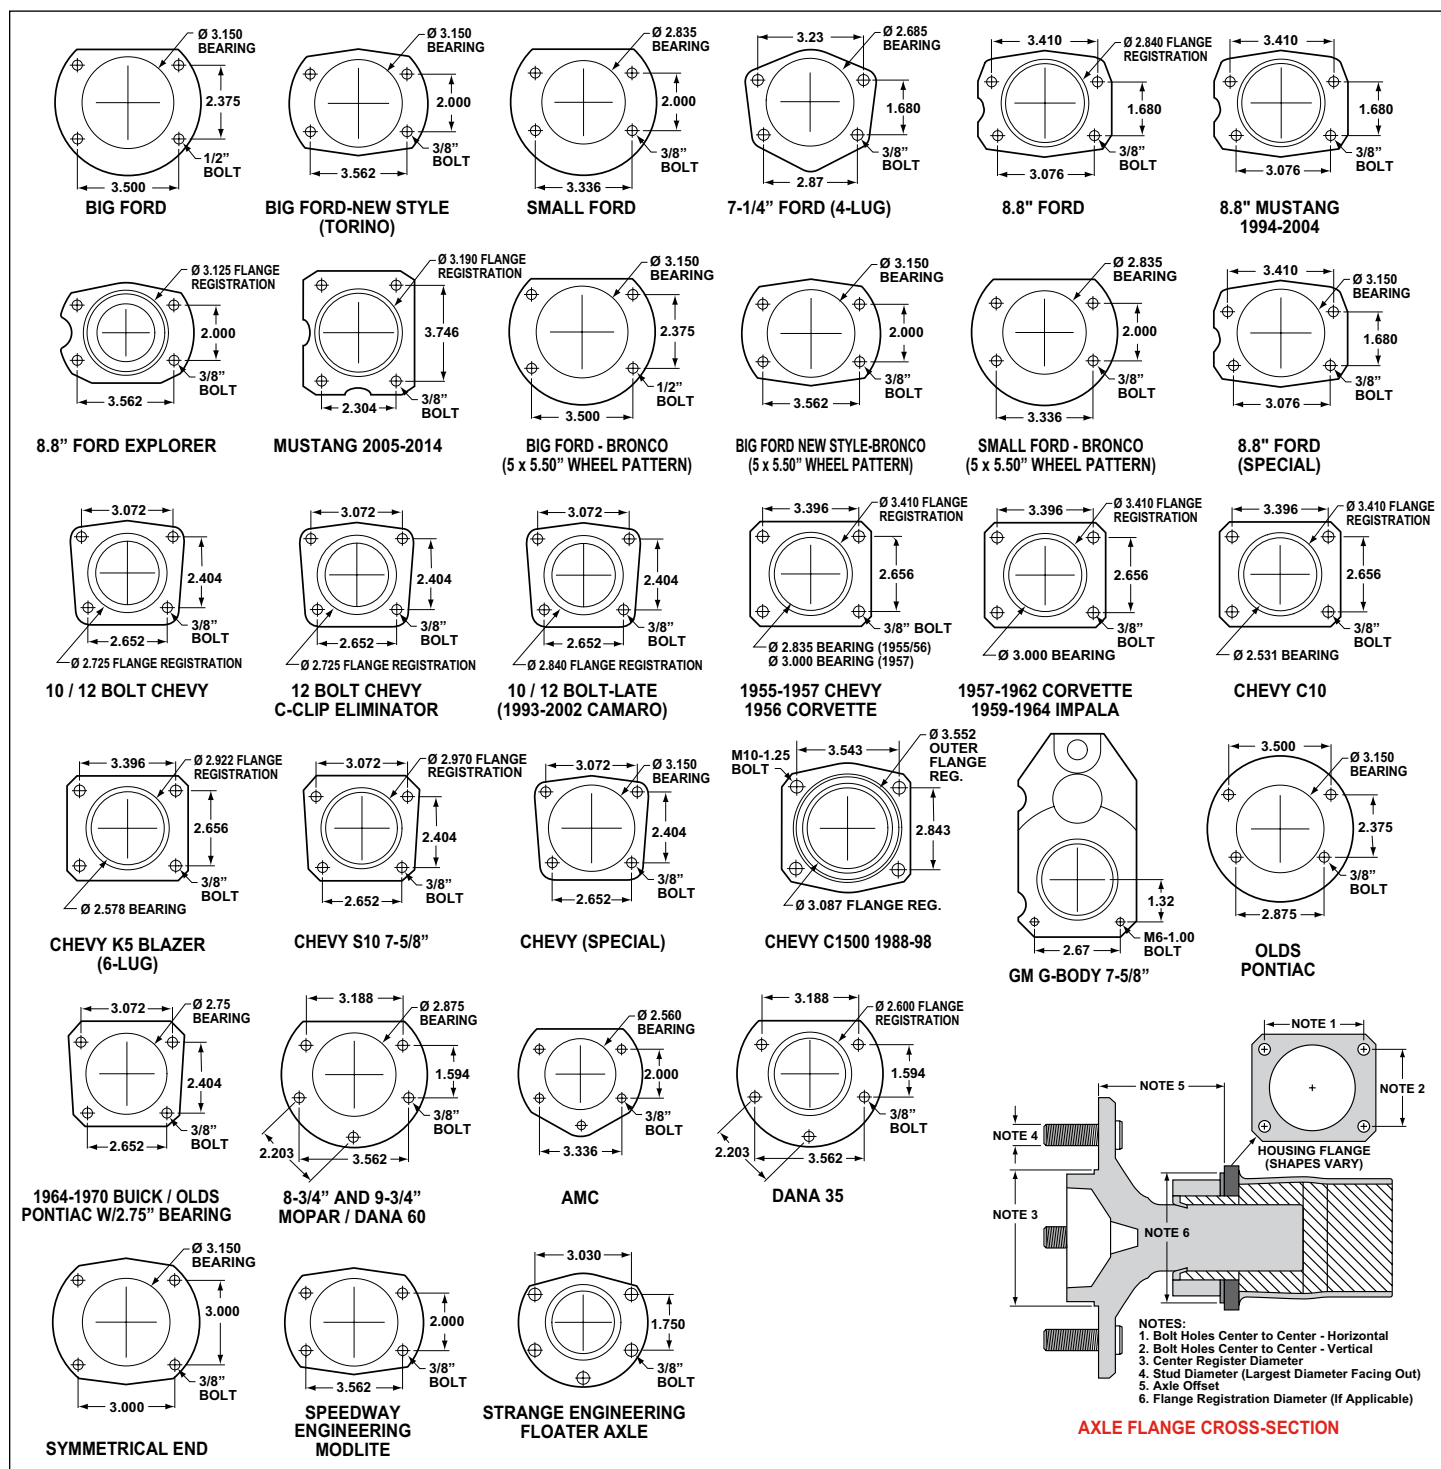

Figure 5. Rear Housing Flange Chart and Axle Flange / Offset Cross-Section
- Dimension from wheel side of axle flange to wheel side of axle housing flange (see Figure 5, lower right hand corner). This dimension is critical to ensure proper alignment of the rotor to the caliper, and should match offset given in the kit description.